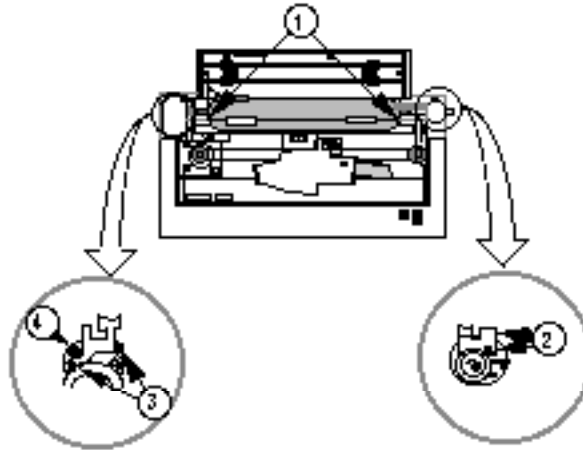

FIGURE 25
3. Bring the paper bail assembly back down over the platen and reinstall the springs (Figure 25, #1).
4. Replace the left and right platen bushing plates. The left bushing requires two screws (Figure 25, #3) and needs to be held tightly in place against the metal frame while seating the small tab on the very end of the paper bail onto the small groove in the bushing. Also replace the ground wire (Figure 25, #4).
The right bushing (Figure 25, #2) is somewhat similar but needs only one screw . On the bushing itself is a notch that must sit in a cut-out in the frame. Once these bushings are installed, the tabs on each end of the paper bail, when it is lifted up, should rest on the grooves in the bushings.